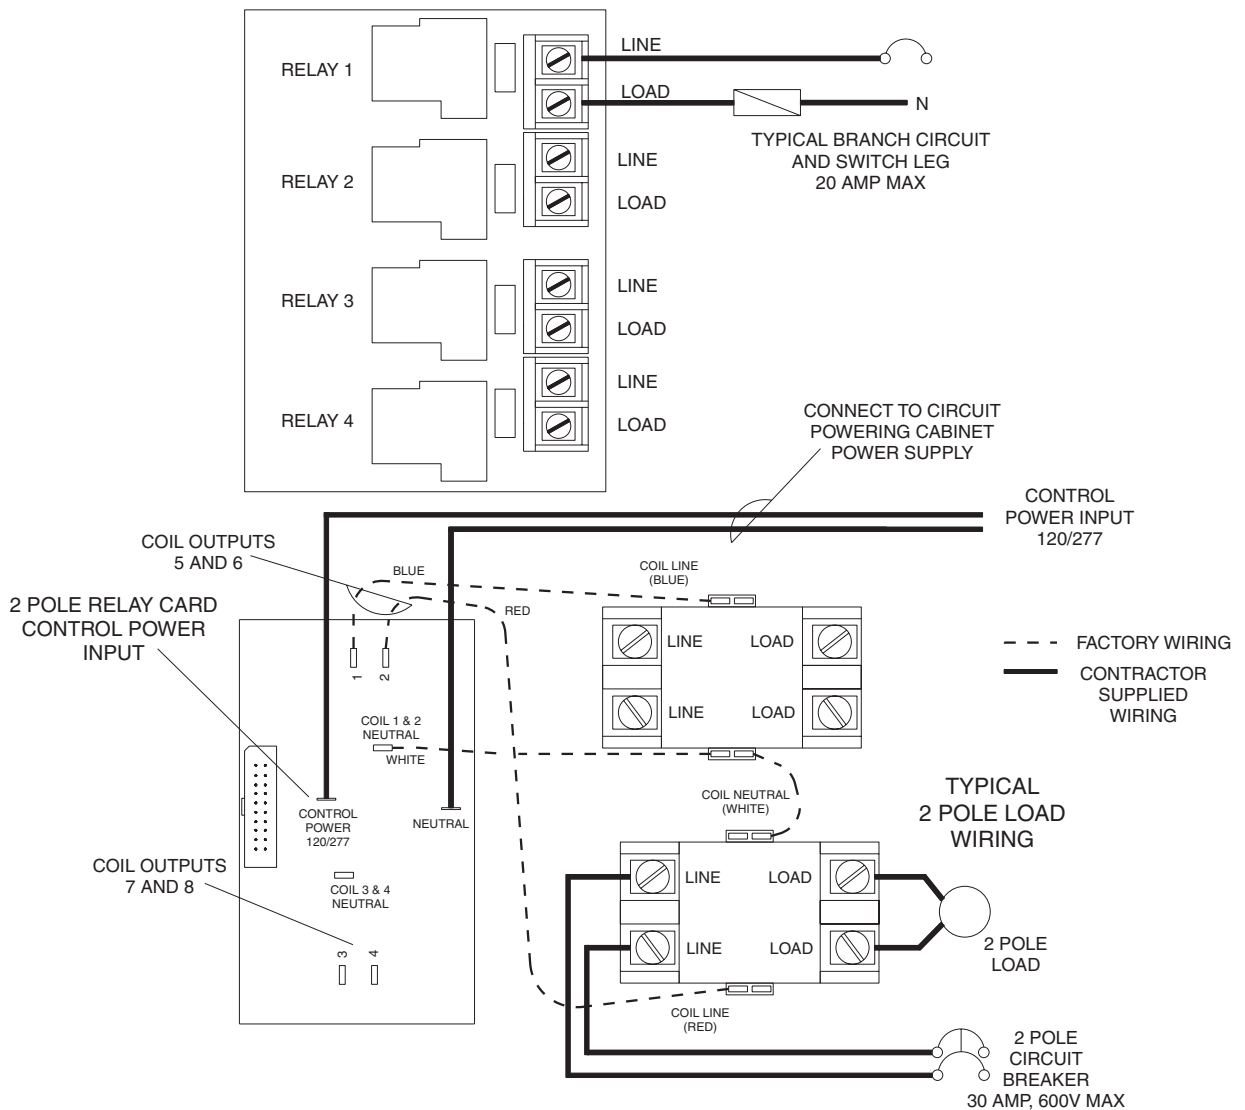

Figure 5 - Load Connections 4S 2D (4 Single Pole, 2 Double Pole)
2. Connect a single pole load to the output terminal block position labeled LOAD. See *Figure 5* for details.
3. Connect a 2 pole load to the 2 pole relay terminal positions labeled LOAD. See *Figure 5* for details.